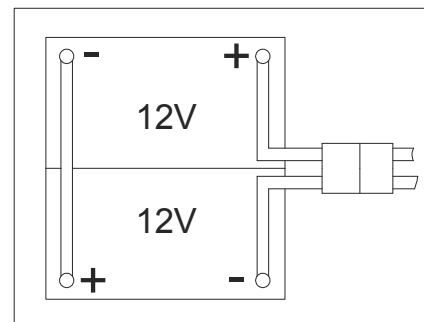

Figure 3
The machine requires two 12 V batteries, connected according to the diagram (Figure. 3).
7. Open the recovery tank cover (1) and check that the recovery tank (25) is empty; otherwise empty it with the drain hose. (22)
8. Close the recovery tank cover (1).
9. Overturn the recovery tank (25) carefully.
11. Route and install the battery cable as shown in (Figure3), then carefully tighten the nut on each battery terminal.
12. Place the protection cap on each terminal, then connect the battery connector (38).
13. Carefully lower the recovery tank (25).